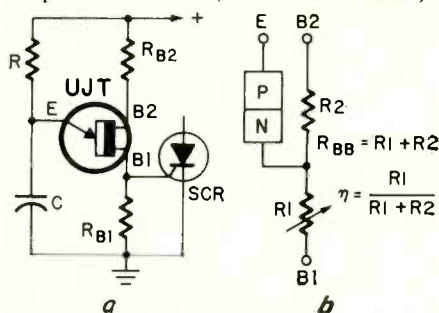
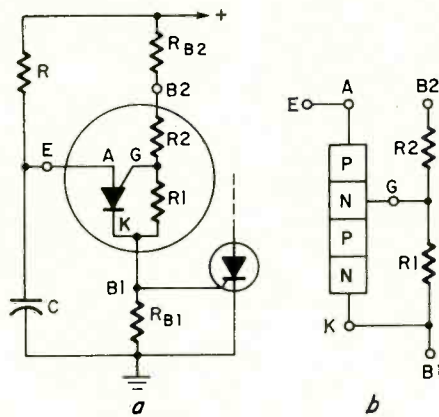

Fig. 8-a—A TYPICAL UNIUNCTION driving an SCR. b—UJT equivalent circuit and (c) negative-resistance characteristic.
Fig. 9—HOW A PUT REPLACES UJT in circuit in Fig. 8-a. b—UJT equivalent circuit using programmable unijunction. c—The simplified PUT version of Fig. 8-a.
circuit in place of an unijunction is easily understood. Figure 8-a shows a basic unijunction circuit. Figure 9-a shows the identically same circuit except the unijunction transistor is replaced by the D13T plus the resistors R1 and R2. Comparing the equivalent circuits of Figs. 8-b and 9-b, it can be seen that both circuits have a diode connected to a voltage divider. When this diode is forward biased in the unijunction transistor, R1 becomes strongly modulated to a lower resistance value. This action generates a negative resistance characteristic between the emitter (E) and base one (B1). After the diode conducts, the regeneration inherent in a thyristor causes the PUT to switch on. This generates a negative resistance characteristic from anode to cathode simulating the modulation of R1 in the conventional unijunction.
Resistors R12 and R11 (Figure 8-a) are generally unnecessary when the D13T replaces a conventional UJT. This is illustrated in Fig. 9-c. Resistor R11 is often used to bypass the interbase current of the unijunction which would otherwise trigger the SCR. Since R1 in the case of the PUT (D13T), can be returned directly to ground there is only the peak-point current of the PUT (about 1μA) to bypass. Resistor R12 is used for temperature compensation and for limiting the dissipation in the UJT during capacitor discharge. Since R2 (Fig. 9) is not modulated, R12 can be absorbed into it. The result is the circuit of Fig. 9-b which contains the same number of components as the UJT circuit but at a lower cost and with better performance.